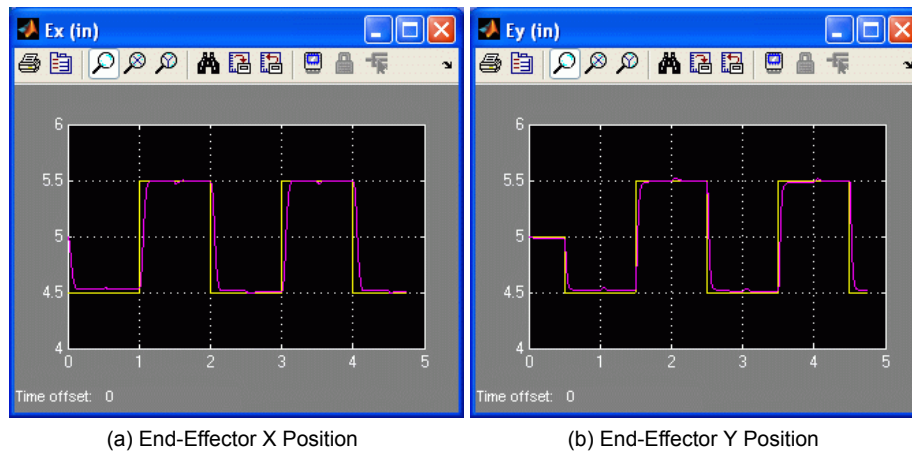

Figure 4.8: Typical workspace control response on 2 DOF Robot
4. Open x and y end-effector position scopes E_x (in) and E_y (in), as well as the motor input voltage scope, V_m (V).
8. Select QUARC | Start to begin running the controller. The scopes should be displaying responses similar to Figure 4.8. The yellow and purple traces in the E_x (in) and E_y (in) scopes are the setpoint position and the simulated position, respectively.